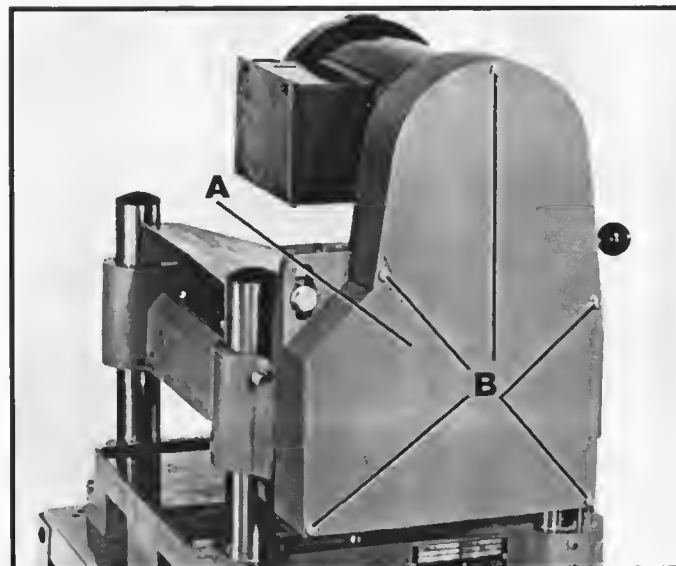

Fig. 15
Assemble the belt guard cover (A) Fig. 15, to the side of the belt guard using the five screws (B).